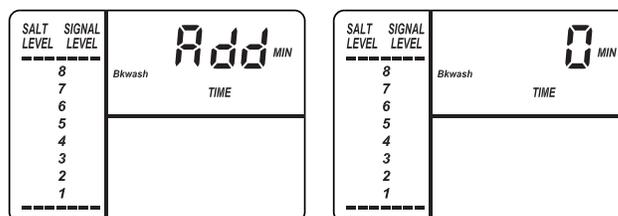

FIG. 34
- Press SELECT again to display the alternating screens shown in Figure 34.